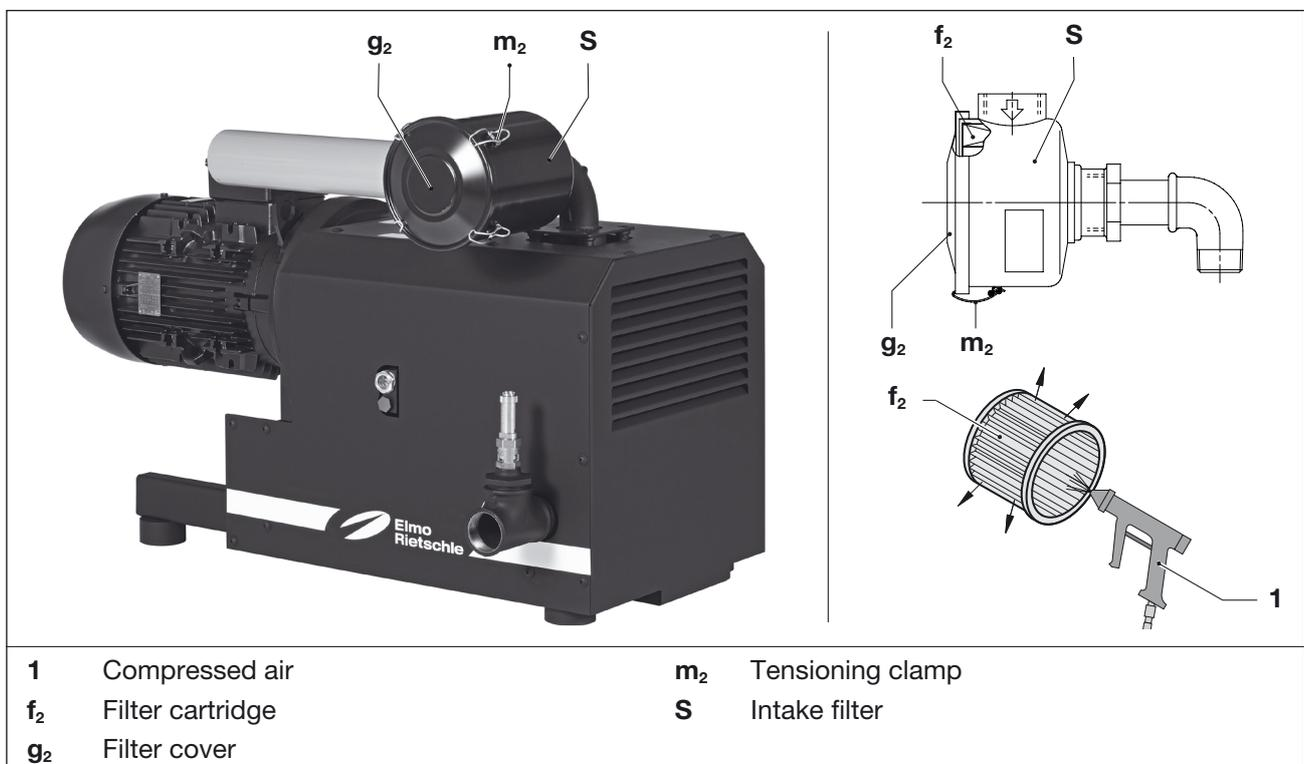

Fig. 8 Intake filter
- b) Release the brackets (Fig. 8/m₂) on the filter cover (Fig. 8/g₂).
- c) Remove the filter cartridge (Fig. 8/f₂) from the filter and clean or replace.
- d) Re-insert the filter cartridge in the filter and fasten the filter cover (Fig. 8/g₂) with the brackets (Fig. 8/m₂).